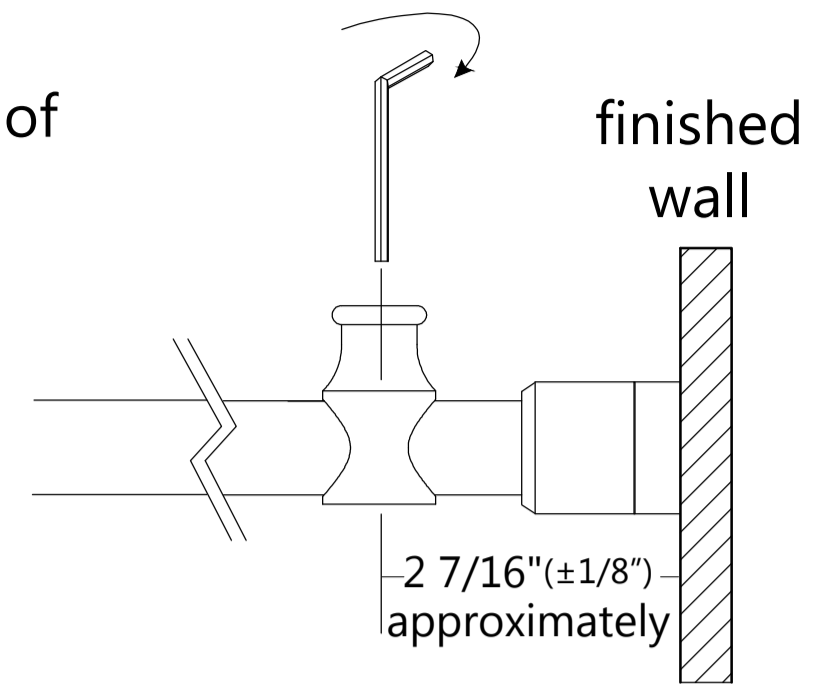

Fig 17a
- 1、 On one side of **Door Glass (D)**, the center of **Door Stoppers (K)** is about [2 7/16] feet from the finished wall. **(Fig 17a)**